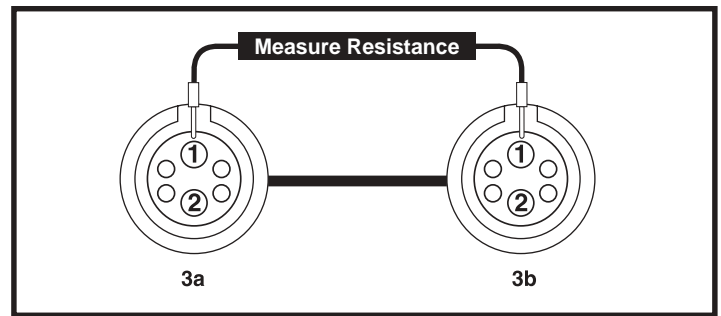

Figure 12. Connectors 3a and 3b
15. Measure resistance from pin 1 on connector 3a to pin 1 on connector 3b. **See figure 12.**